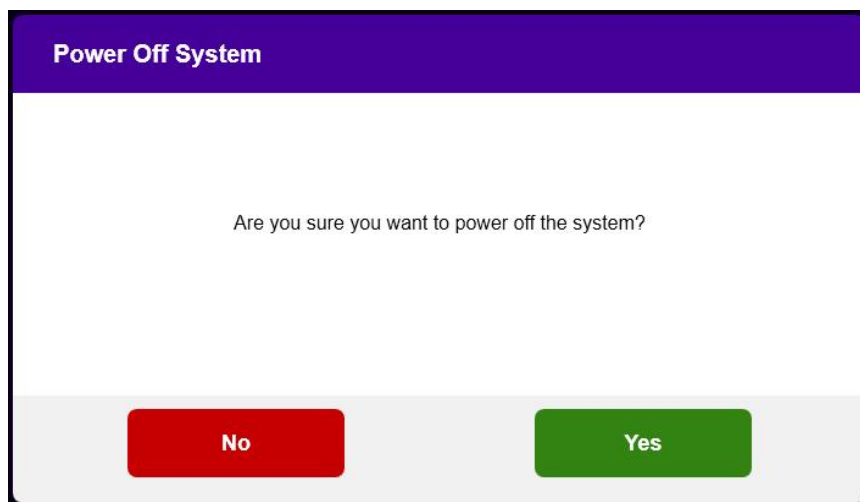

Figure 3-27. Confirm Power Off
- Confirm powering off system by selecting "Yes" as shown in Figure 3-27.